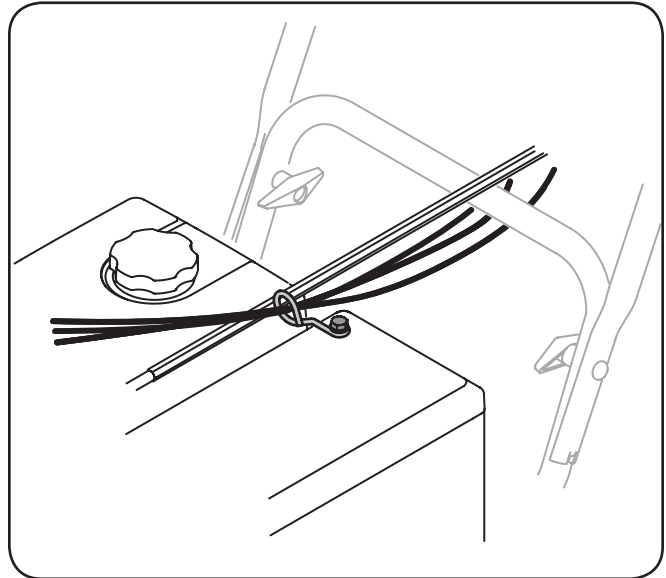

Figure 3-10
- Check that all cables are properly routed through the cable guide on top of the engine. See Fig. 3-10.